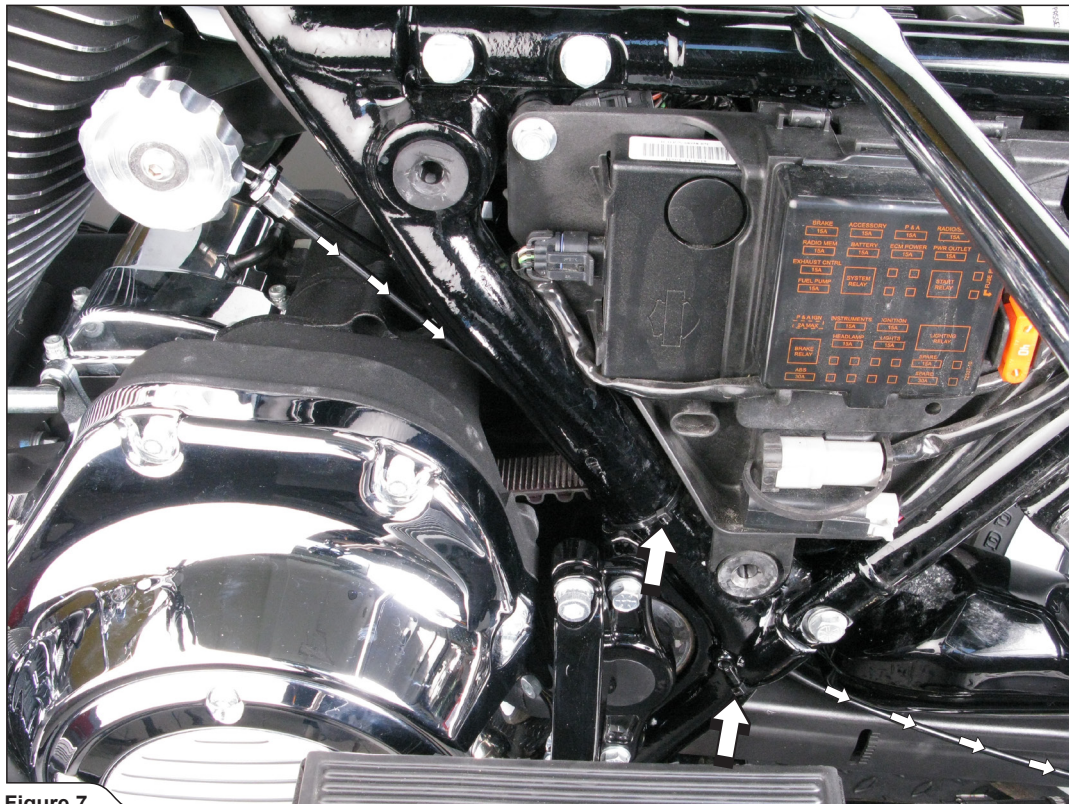

Figure 7
6. Cut the marked original tie wraps and direct the left switch cable (the shorter of the two) behind the frame to the left exhaust valve, secure the left cable to the frame, using Akrapovič tie wraps in the original tie wrap frame holes (Figure 7).